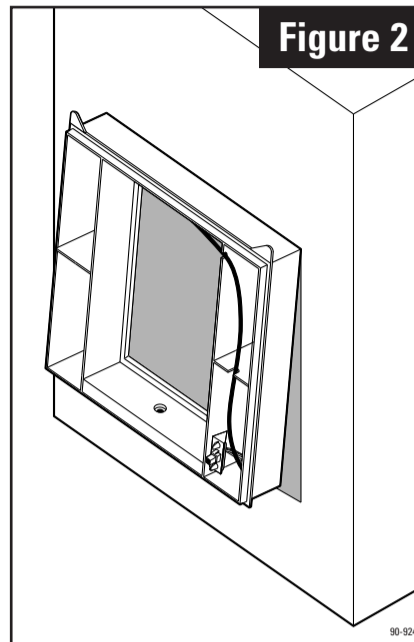

Figure 2
- additional hole is provided at the bottom for securing the base to the plenum. (See Figure 2)